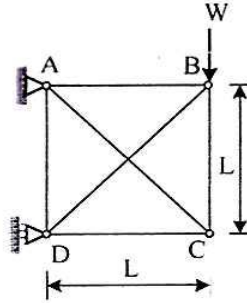

Fig. 5
4. (a) Find forces in members of the truss as shown in Fig. 5. Cross-sectional area and material of all members are same. [6]